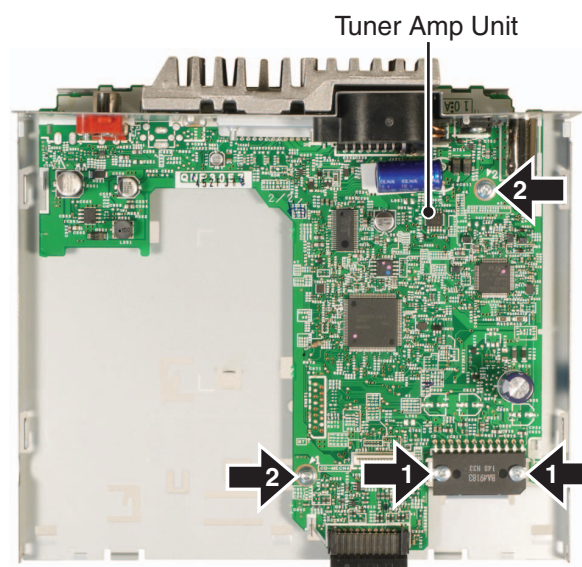

Fig.3
● Removing the Tuner Amp Unit (Fig.3)
4. As shown in Fig 3, move the rear end of the feeding screw laterally and then upward, to remove it from the outer holder.